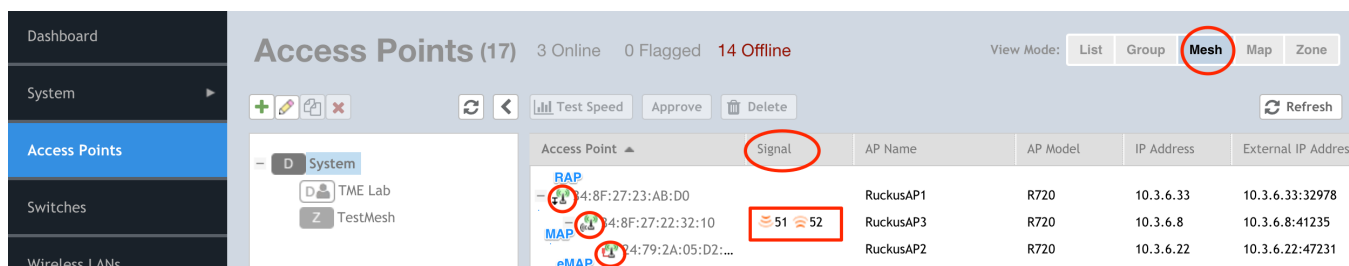
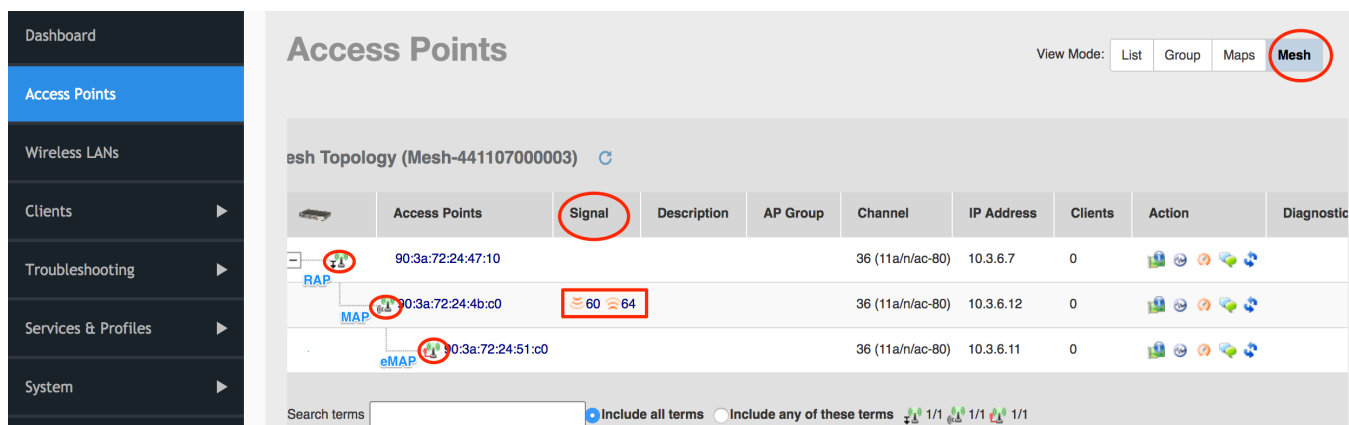

FIGURE 17: SZ MESH VERIFICATION
FIGURE 18A: ZD MESH VERIFICATION
As seen in the figures 17 and 18, each type of mesh node has a special marker associated with it. There are many useful pieces of information to be gleaned from this page that we'll discuss in the next few sections.
In Figure 17 on the SmartZone controller, the "Signal" at the MAP is displayed in SNR in dB. In Figure 18 on the ZoneDirector, the "Signal" can toggle between SNR in dB (Figure 18A) and Ruckus Signal % (Figure 19B) by clicking on the values. In Figure 18A, the first number (60) is the SNR from the RAP (90:3a:72:24:47:10) to the MAP (90:3a:72:24:4b:c0). The second number (64) is the SNR from the MAP to the RAP. The SNR is raw signal over the noise floor or noise generated by other devices on the same/adjacent channel. The higher the number the better the throughput and fade margin for when things go south.